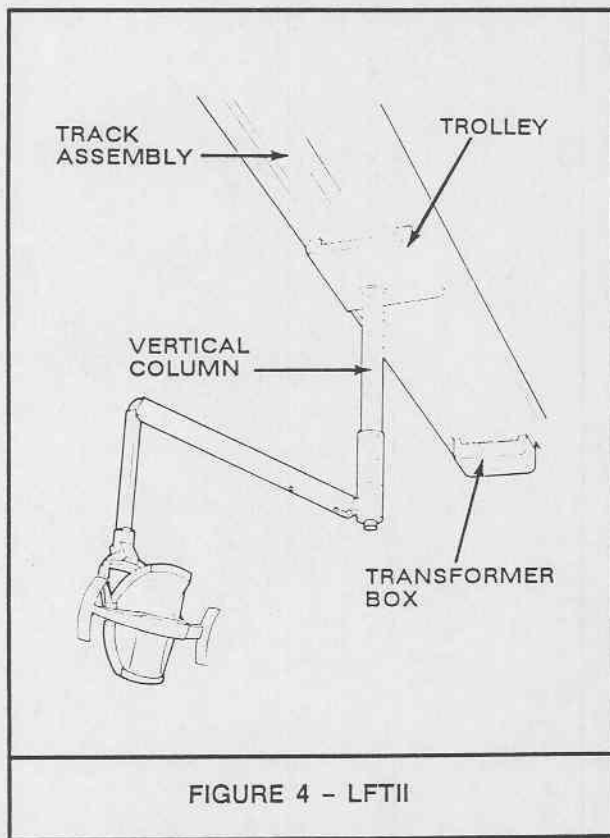
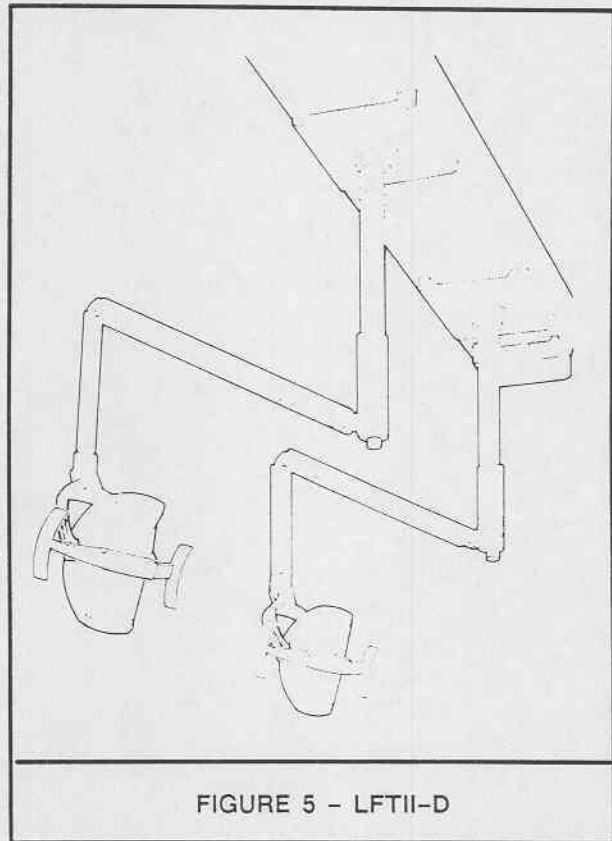

FIGURE 4 - LFTII
FIGURE 5 - LFTII-D
**1.07 The LFTII (Figure 4) and LFTII-D (Figure 5)** track lights answer the demand for precise oral cavity lighting required for supine operative procedures. The dual track light (LFTII-D)
**1.08 Track Assembly (Figure 4)**—The track assembly for models LFTII and LFTII-D consists of a plywood pallet, an aluminum track channel, aluminum dress covers, panels and end caps. Proper installation to ceiling substructures will ensure drift free and vibration free operation of the light head (see Installation Instructions YL3-096035).
**1.09 Transformer Box (Figure 4)**—Removal of the transformer box lid provides access to the transformer for required wiring. A fuse located on the end of the transformer box is provided for circuit protection of the light. The LFTII uses a 3AG SLOW BLOW 2 amp 125 volt fuse (Littlefuse #313002/S) and the LFTII-D uses a 3AG SLOW BLOW 4 amp 125 volt fuse (Littlefuse #313004/S).
**1.10 Trolley (Figure 4)**—The trolley rolls freely at the touch of the hand and serves as the portable and positive mount for the light column through which the electrical wiring passes.
**1.11 Vertical Column (Figure 4)**—The column length and associated power cable determine height of light and are the only two variable factors with different ceiling heights. If light is moved to new office with a different ceiling height, a new column and associated power cable may be purchased to easily modify the light.